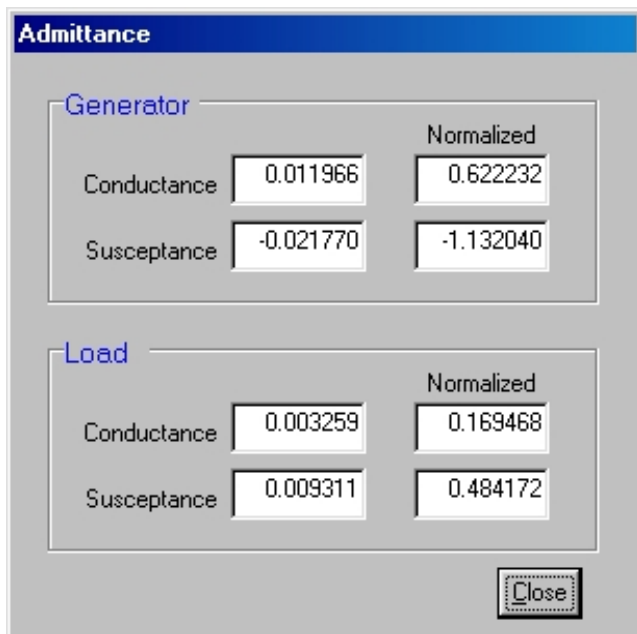

Figure 16
**Admittance** --- See Figure 16. This panel shows the calculated admittance values of conductance and susceptance for both the generator and load. Values normalized to the transmission line  $Z_0$  are also given. These values are calculated from data on the main work sheet.